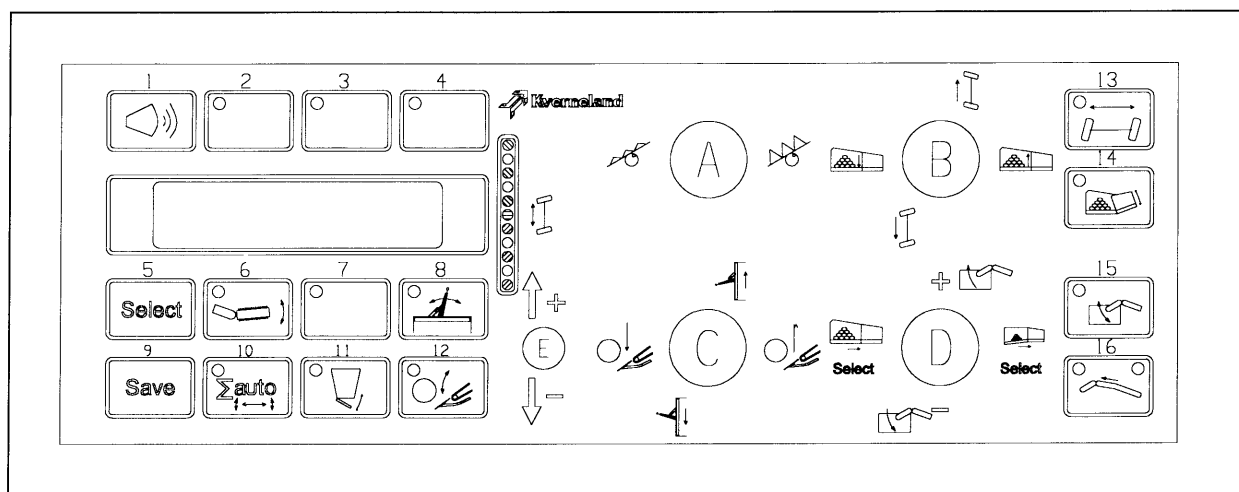

Fig. 26-1
- Control panel tractor (Fig. 26-1)
(Fig. 26-1). Appearing of text in the display shows that the power supply is connected. The panel is prepared for operating extra functions, even if the machine is not equipped with this functions